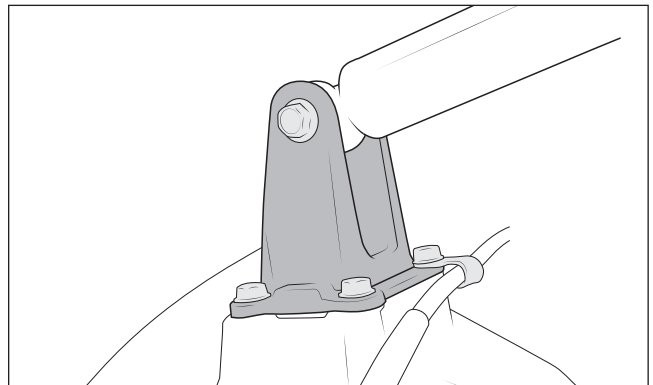

Figure 2
6. Remove the power hop bracket and save the hardware — if equipped (fig. 2).
2. Install AEV parking brake cable spacer (fig. 2).